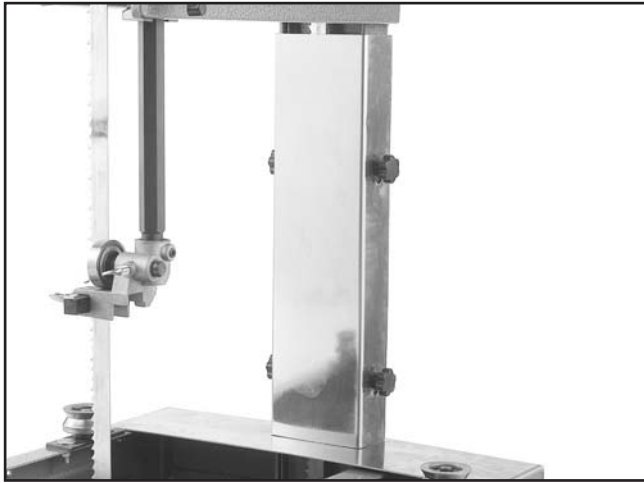

Figure 20. Blade guard installed.
3. Place the blade guard around the side of the bandsaw covering the blade as shown in **Figure 20**.